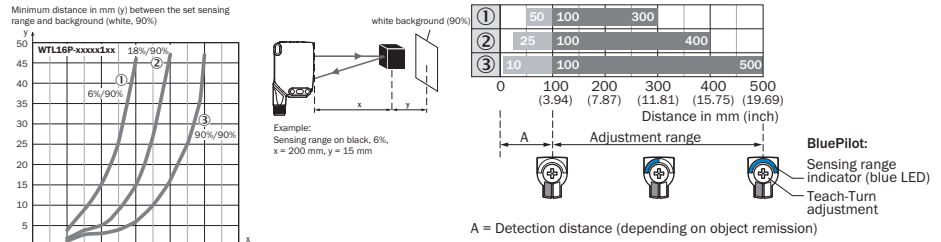
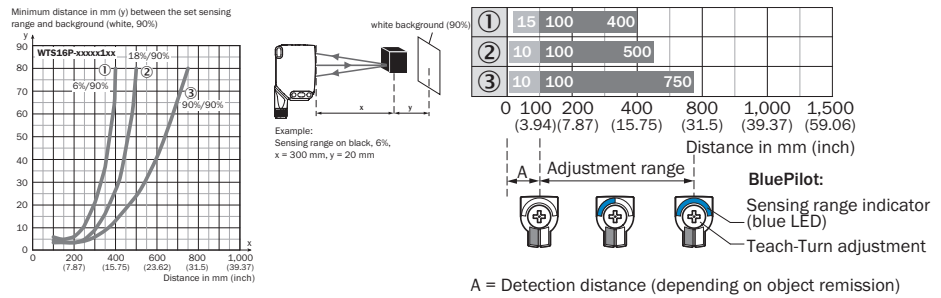

Figure 2: Characteristic line 1, WTL16P-xxxx1xx, red light
Figure 3: Characteristic line 1, WTS16P-xxxx1xx, red light
Check the application conditions: Adjust the sensing range and distance to the object or background as well as the remission capability of the object according to the corresponding diagram [\[see figure 2, figure 3\]](#) (x = sensing range, y = minimum distance between set sensing range and background [white 90%]). Remission: 6% = black ①, 18% = gray ②, 90% = white ③ (referring to standard white as per DIN 5033). We recommend that the adjustment be performed with an object of low remission.
The minimum distance (= y) for the background suppression can be determined from the diagram [\[figure 2 ①\]](#) as follows: